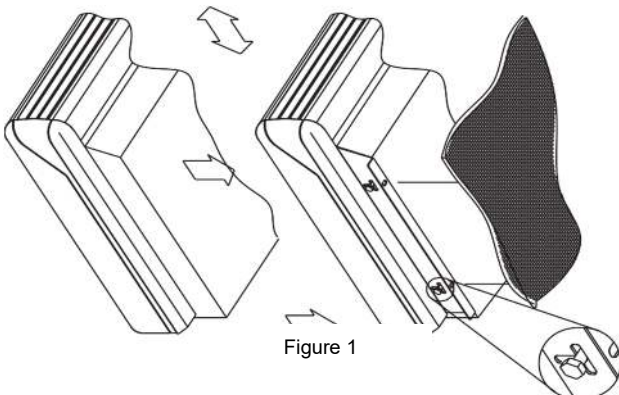

Figure 1
- (1) See Table1 for hanging weights. Dry coil.
- (2) For unit dimensions, See Table 2
- (3) Select position for unit and define direction of water pipe, drainpipe and electrical wiring.
- (4) Bracket dimension and locations. See Table 3
- (5) Ensure the unit is installed per all prevailing codes.
- (6) Ensure the structural strength of the supporting members is sufficient.
- (7) Remove unit from the carton and carefully place the unit to the installed position and tighten the (4) bolts. See figure 1 and 2